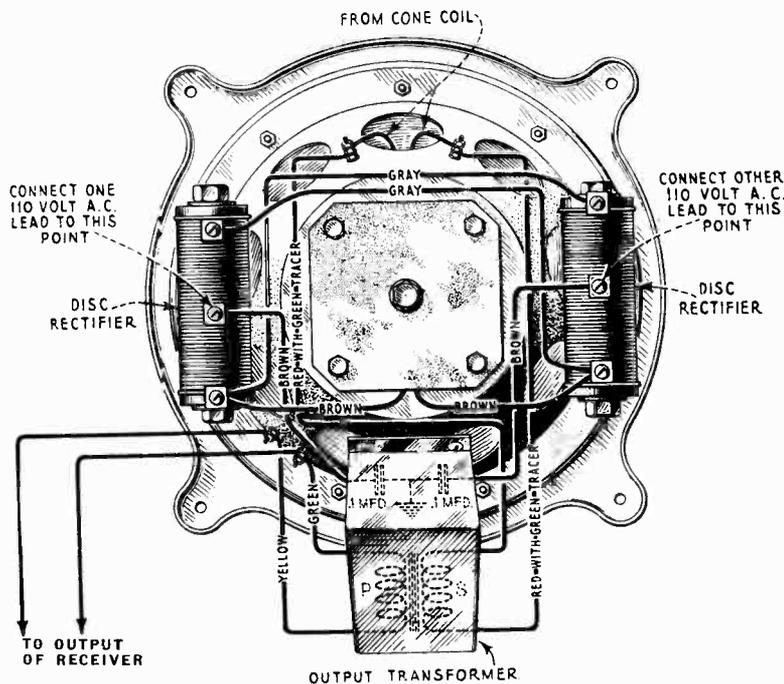

Figure 3—Wiring diagram of reproducer unit
- (c) Defective connections to rectifier or to field, or a defective operating switch. Check all connections carefully against the wiring diagram Figure 3.